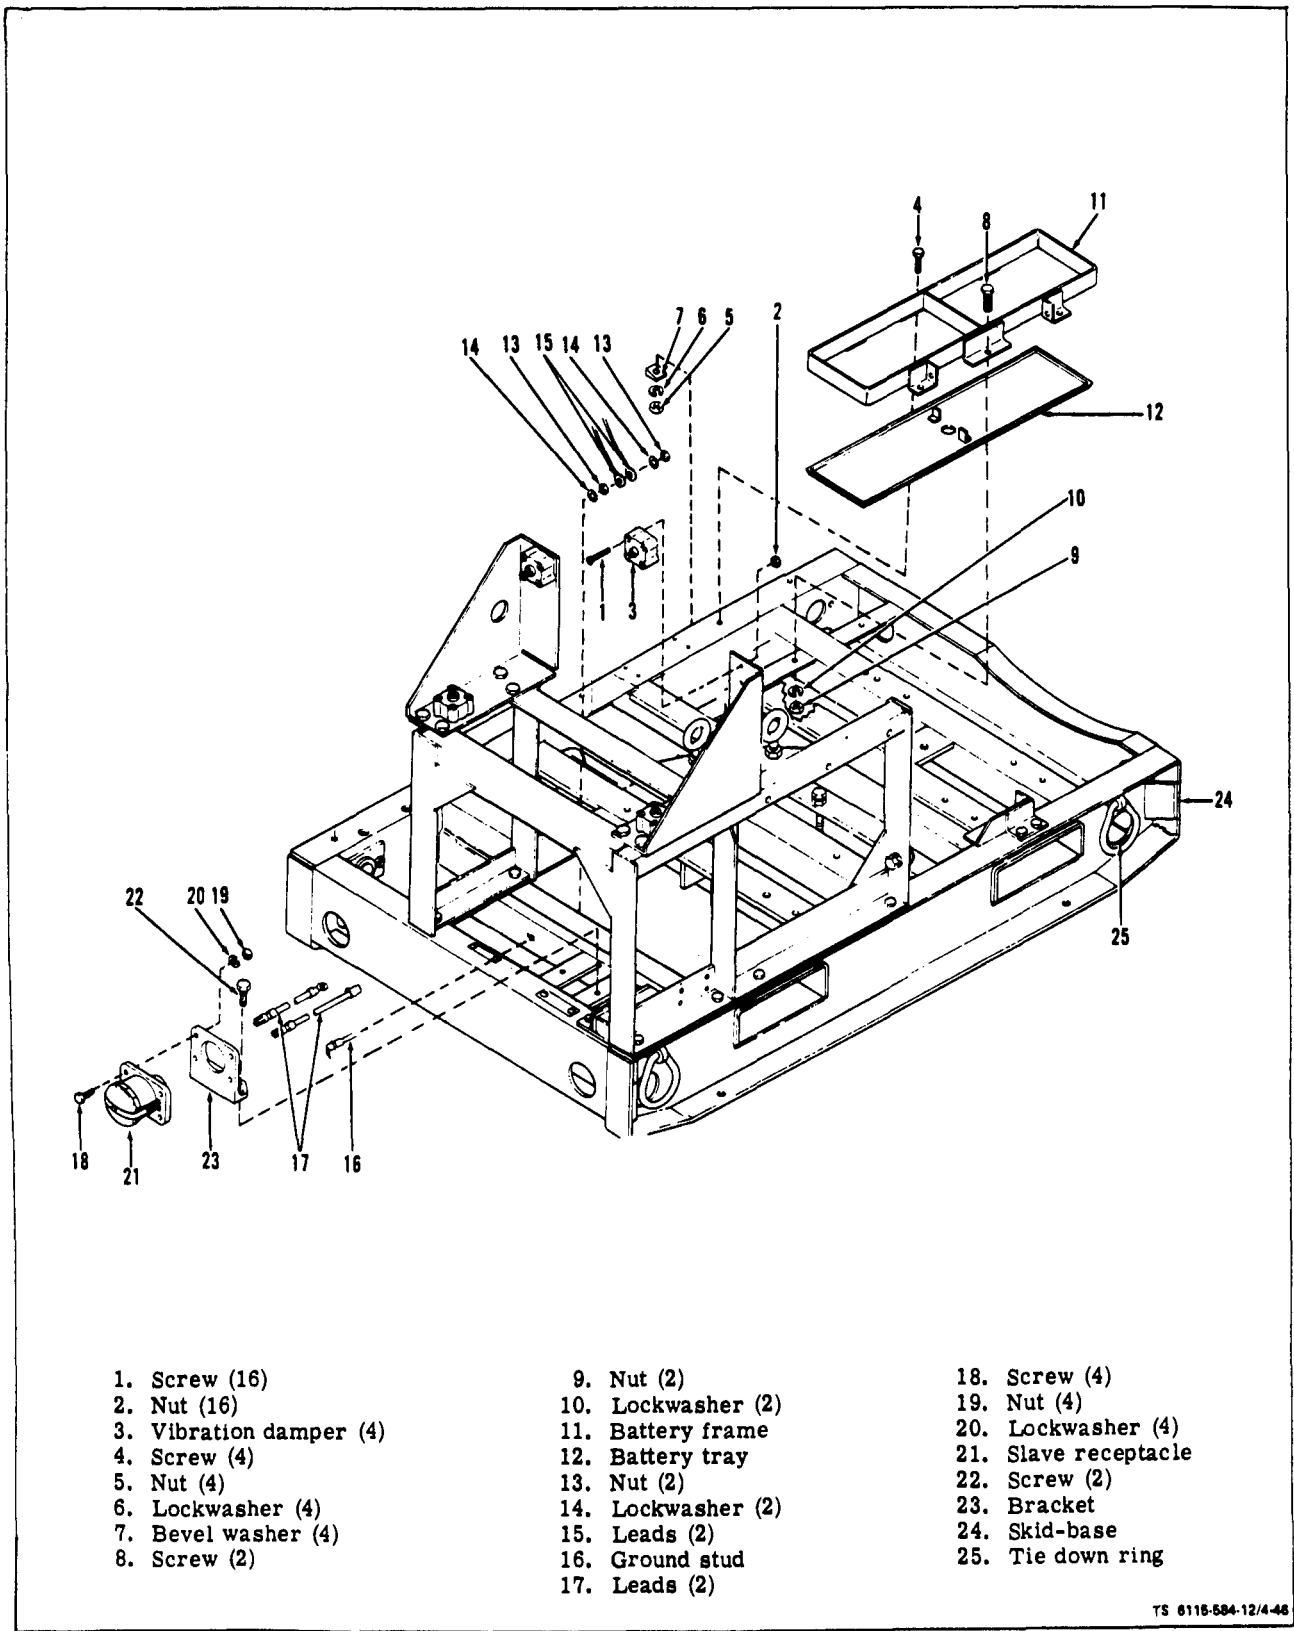

Figure 4-46. Skid-Base Assembly
a. Inspect (see figure 4-46). On ASK equipped generators, refer to Chapter 5 for removal procedures for the entire ASK.
(1) Vibration Mounts, Inspect vibration mounts (3) for cracked rubber and loose or missing hardware.
(2) Battery Frame Bottom. Inspect battery frame (11) for corrosion, bends, dents or broken welds.
(3) Battery Tray, Inspect battery tray (12) for corrosion, or physical damage.
(4) Ground Stud. Inspect ground stud (16) for physical damage to threads, nuts and washers.
(6) Tie Down Ring. Inspect tie down rings (25) for physical damage. Check that they are securely mounted to skid-base.
(6) Skid-Base. Inspect skid-base (24) for physical damage. Check that skid-base is not bent or bowed,
b. Remove (see figure 4-46).
(1) Vibration Mounts.
(b) Remove four screws (1, figure 4-46) and nuts (2) attaching each mount in place and remove mounts (3).
(2) Battery Frame and Tray Removal.
(b) Remove screws (4 and 8, figure 4-46), bevel washers (7), lockwashers (6 and 10), and nuts (5 and 9). Remove frame (11) and tray (12).
(3) Ground Stud. Remove nut (13) and lockwasher (14) attaching wound leads (15) from starter to ground stud (16). Remove nut (13) and lockwasher (14) attaching ground stud to skid-base (24). Remove stud.
(4) Slave Receptacle. Tag and remove leads (17) from slave receptacle (21). Remove receptacle (21) by removing screws (18), nuts (19) and lockwashers (20). Remove mounting bracket (23) by removing screws (22).
(1) Battery Frame Bottom. Clean, weld and straighten battery frame as required.
(2) Battery Tray, Clean and straighten battery tray as necessary.
(3) Broken or Loot Terminal Clip (Retainer, Safety Clip). For fabrication procedure, see Chapter 4, Section XII Maintenance of Control System, paragraph 4-37.
d. Install (see figure 4-46).